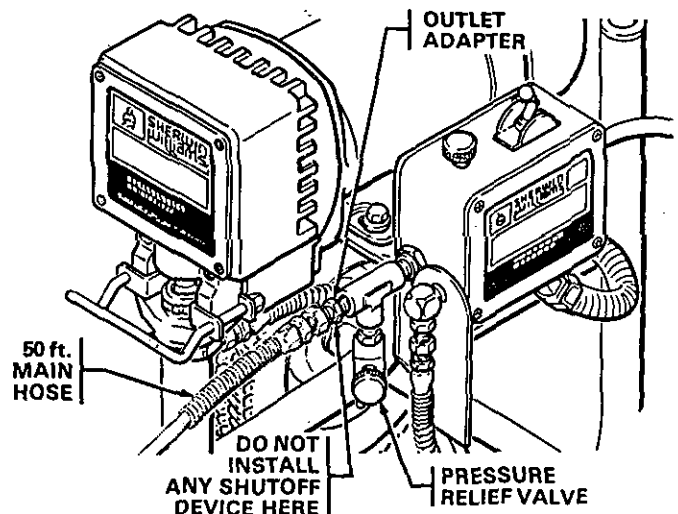

Fig 1
1. **Connect Hose and Gun (Refer to Fig 1.)**
- a. Close the pressure relief valve. See Fig 1.